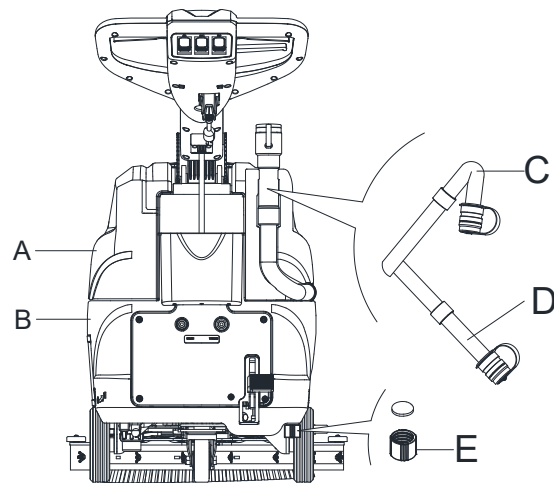

Figure 10
When draining the wastewater, the vacuum tube for waste must be folded (C, Figure 10) and lowered to a lower position (D, Figure 10), and then open the lid of the vacuum tube for waste to drain the water. Do not make the outlet of the vacuum tube for waste face upward to drain the water vertically. This is to avoid wastewater spilling onto the operator.
8. Empty the solution tank with the outlet cover (E, Figure 10). After working, rinse the tank with clean water.
2. Empty the tanks (A and B, Figure 10) as shown in the previous paragraph.